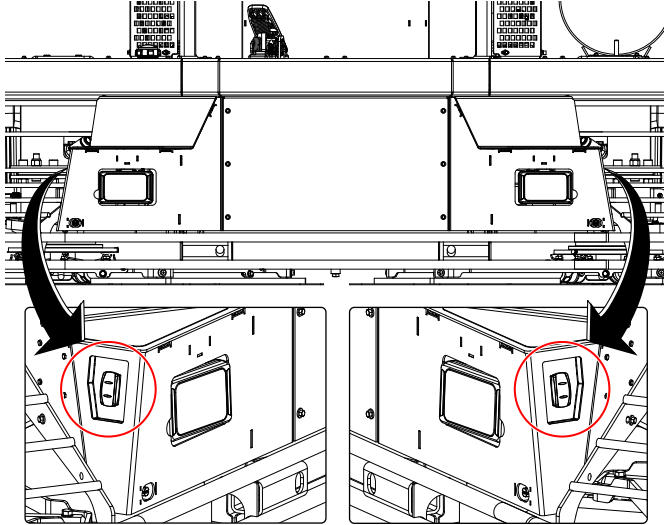

Figure 92. Drive Bypass Switches
6. To finish installing the float pan onto the remaining finisher blades, turn the rotors by pressing and holding the left or right drive bypass switch (Figure 92) and the foot pedal.